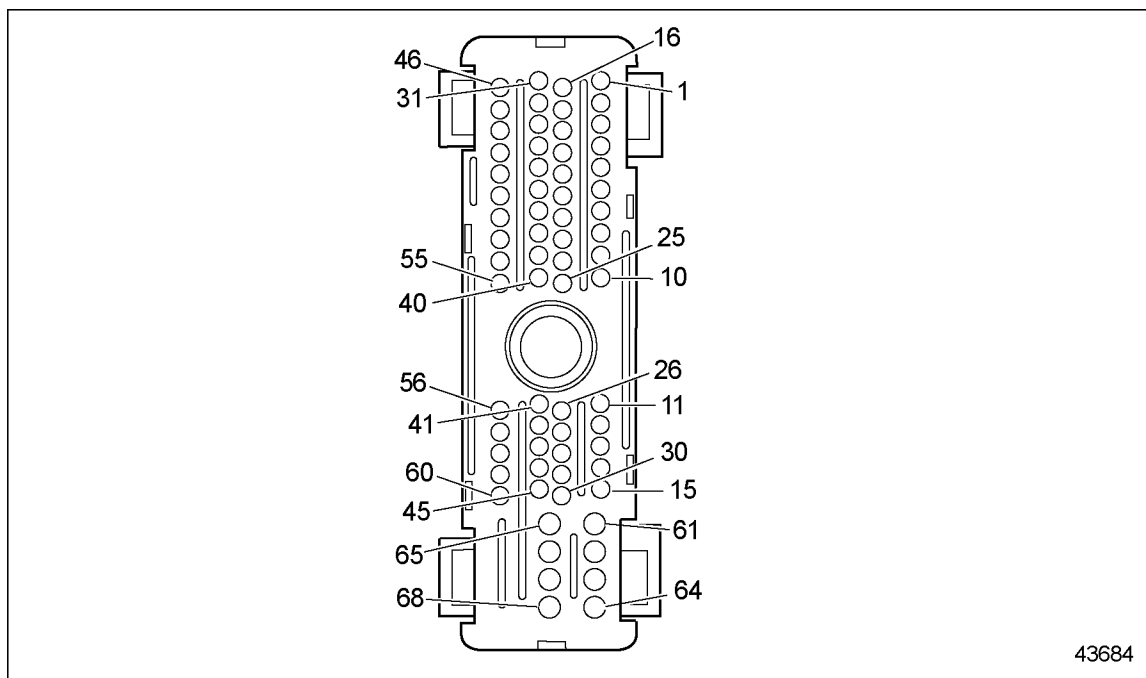

Figure 35-1 ECM/ECU Vehicle Interface Harness Connector
5. Measure voltage between V-02 and a good ground. See Figure 35-1.